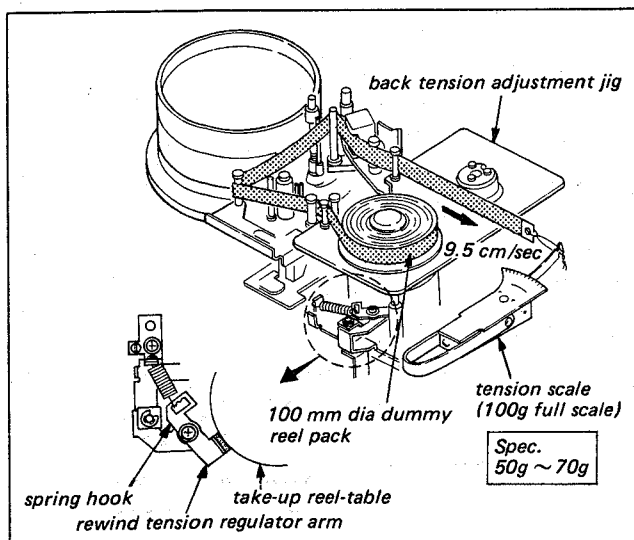

Fig. 5-3. Rewind back tension adjustment (REW mode)
2. Install the Back Tension Adj. Jig (Jig Ref. No. J-12) on the machine as shown in Fig. 5-3.
3. Install a 100mm diameter dummy reel pack tape (Jig Ref. No. J-7) on the Take-up Reel-Table and thread the tape as Fig. 5-3.
4. Put the machine into the REW mode. Hook a tension scale (100 g full scale) (Jig Ref. No. J-16) on an end of the tape and pull it at the constant speed of approx. 9.5 cm/sec speed in the direction shown in Fig. 5-3.